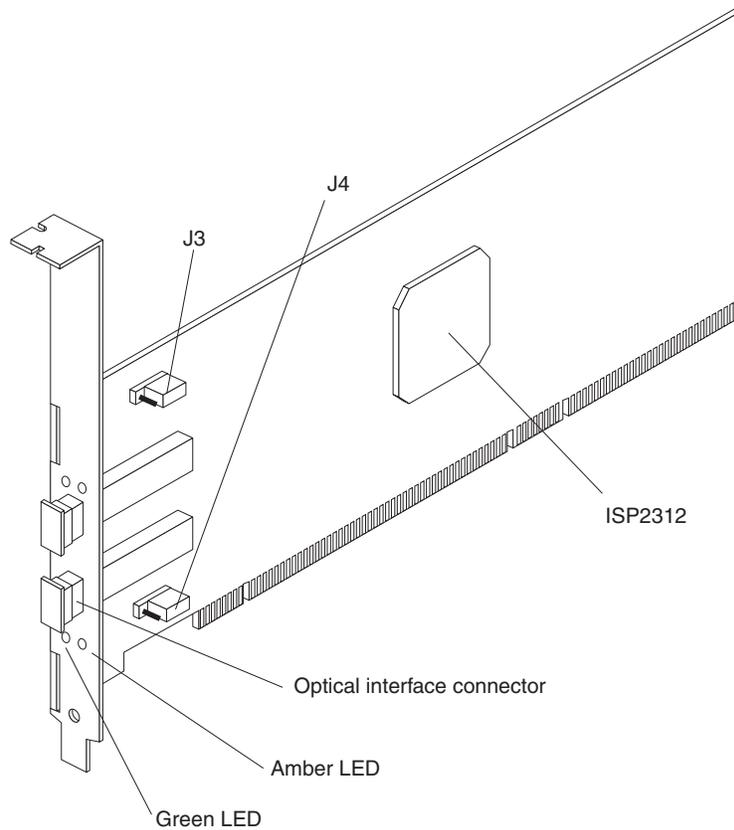

Figure 3. FAST FC2-133 components
The IBM TotalStorage FASTT FC2-133 Dual Port Host Bus Adapter (part number 24P8053) is a 2-Gbps high-performance, direct memory access (DMA), bus master, fibre channel (FC) host adapter designed for high-end systems. The function and performance are derived from the ISP2312 chip (see Figure 3 on page 4), making the FASTT FC2-133 a leading-edge host adapter.
Figure 3 on page 4 identifies the FAStT FC2-133 components that are referred to in this document.
The FAStT FC2-133 comes with an attached standard 3U adapter bracket, as shown in Figure 3 on page 4. A Low Profile 2U bracket also comes with the adapter. Before you install the FAStT FC2-133, verify whether you need the fibre channel Low Profile 2U adapter bracket. If you need to install the Low Profile 2U bracket, go to step 1. Otherwise, go to step 2.